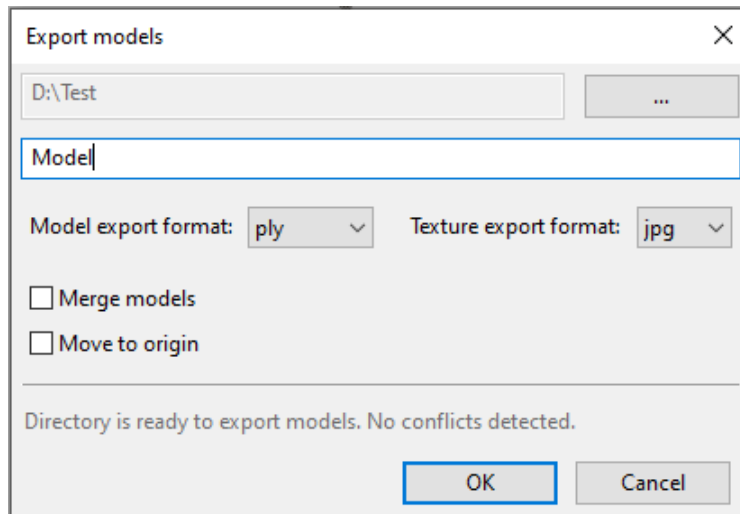

Figure 108: Dialog for exporting meshes.
2. Right click and select the *Export* → *Meshes* option, or select the *File* → *Export* → *Meshes* command. A dialog window will appear (Figure 108).